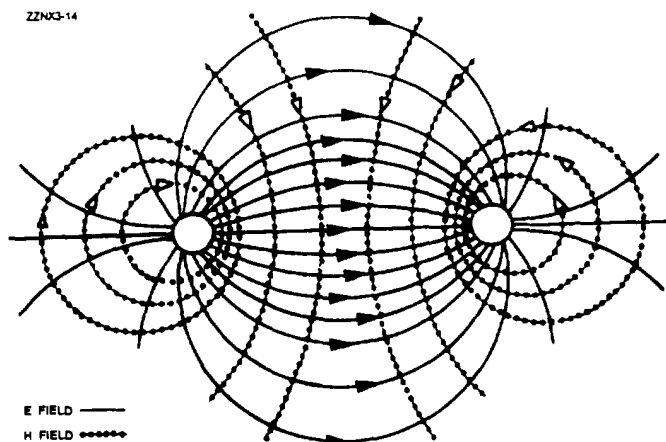

Figure 3-6.—Fields between conductors.
There are two kinds of fields; one is associated with voltage and the other with current. The field associated with voltage is called the **ELECTRIC (E) FIELD**. It exerts a force on any electric charge placed in it. The field associated with current is called a **MAGNETIC (H) FIELD**, because it tends to exert a force on any magnetic pole placed in it. Figure 3-6 illustrates the way in which the E fields and H fields tend to orient themselves between conductors of a typical two-wire transmission line. The illustration shows a cross section of the transmission lines. The E field is represented by solid lines and the H field by dotted lines. The arrows indicate the direction of the lines of force. Both fields normally exist together and are spoken of collectively as the electromagnetic field.